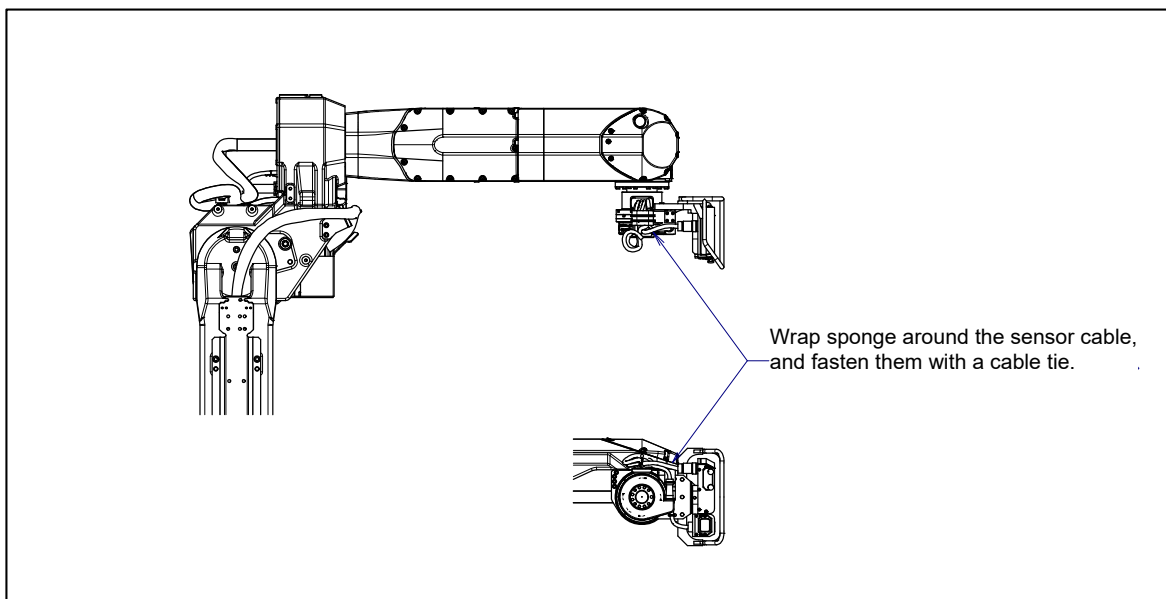

Fig. 10.2 (a) Replacing the sensor cable and the camera cable
- 2 Wrap sponge and tie cable tie around the Sensor side connector positions for each cable as shown in Fig. 10.2 (a).
For the sensor cable kit, a sponge is attached for protection of the cable from clamping band. When assembling, perform the correct clamping according to Fig. 10.2 (b).